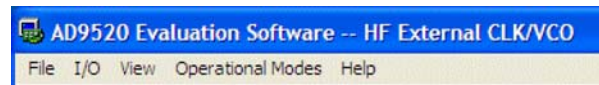
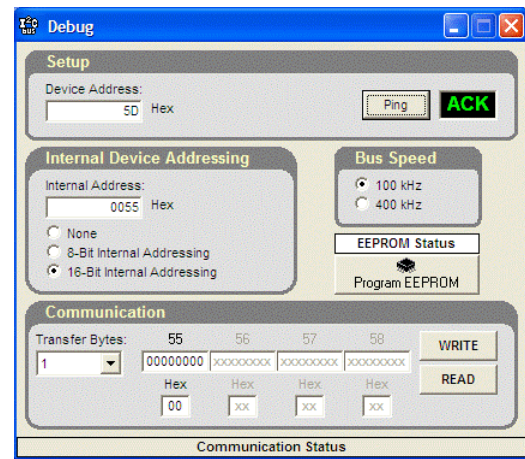

Figure 24. Menu Bar
Figure 29. Evaluation Software I2C Debug Window
7. From the **View** menu on the menu bar (see Figure 24), and select **Debug**. Click the **I2C Debug** button. The window shown in Figure 29 appears.
8. Enter the I2C address set by Jumper S5 and Jumper S6 on the AD9520 evaluation board, and click **Ping**. The user should see a green **ACK** message as shown in Figure 29. Repeat this step for the I2C address of the target AD9520. If **ACK** is returned for both addresses, the remote AD9520 is ready to be programmed. If the ping test fails, double-check the cabling between the boards, as well as the I2C address of the target AD9520. Ensure that the I2C address of the AD9520 on the evaluation board is different from the target AD9520. Also, disconnect the jumper cable, and make sure that I2C mode is working properly on the AD9520 evaluation board.